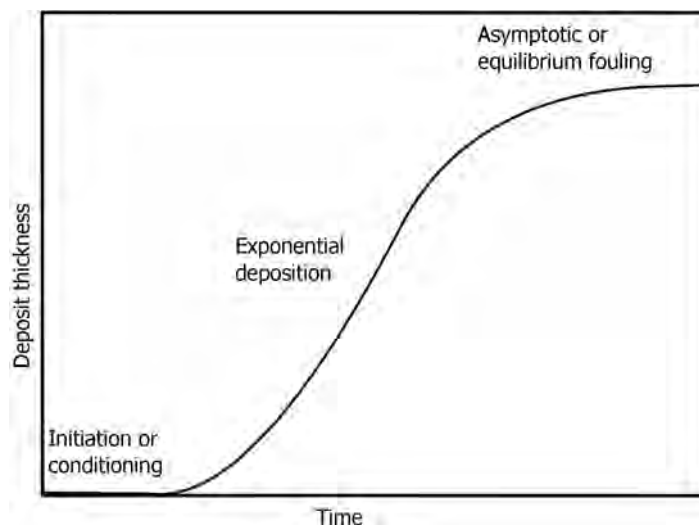

FIGURE 10.35 Idealized fouling curve.
- > Further deposition proceeds with rapid increase in thickness in an exponential way as shown by the steep curve (Figure 10.35).